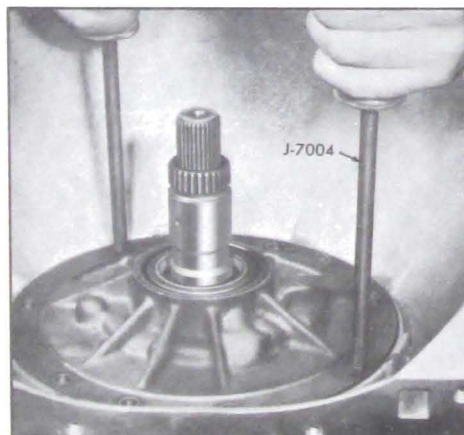

Figure 5-539
3. Install 5/16-18 threaded side Hammers, J-7004, into bolt holes in the pump body and remove. See Figure 5-539 pump assembly from case. (See illustration for location of threaded holes.)